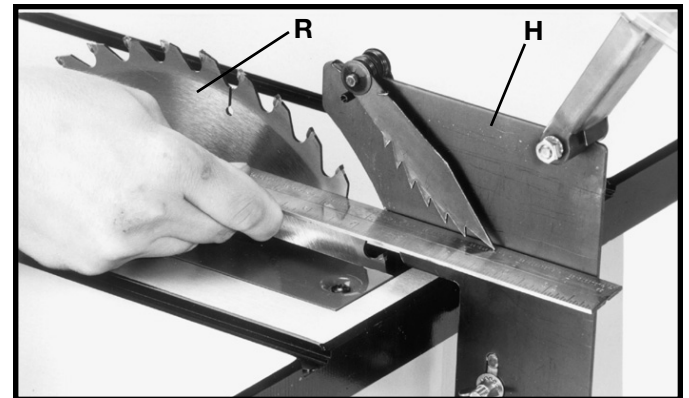

Fig. 16
9. Using a straight edge, check to see if the splitter (H) Fig. 16, is aligned with the saw blade (R). If an adjustment is necessary, the splitter (H) can be moved left or right and rotated.